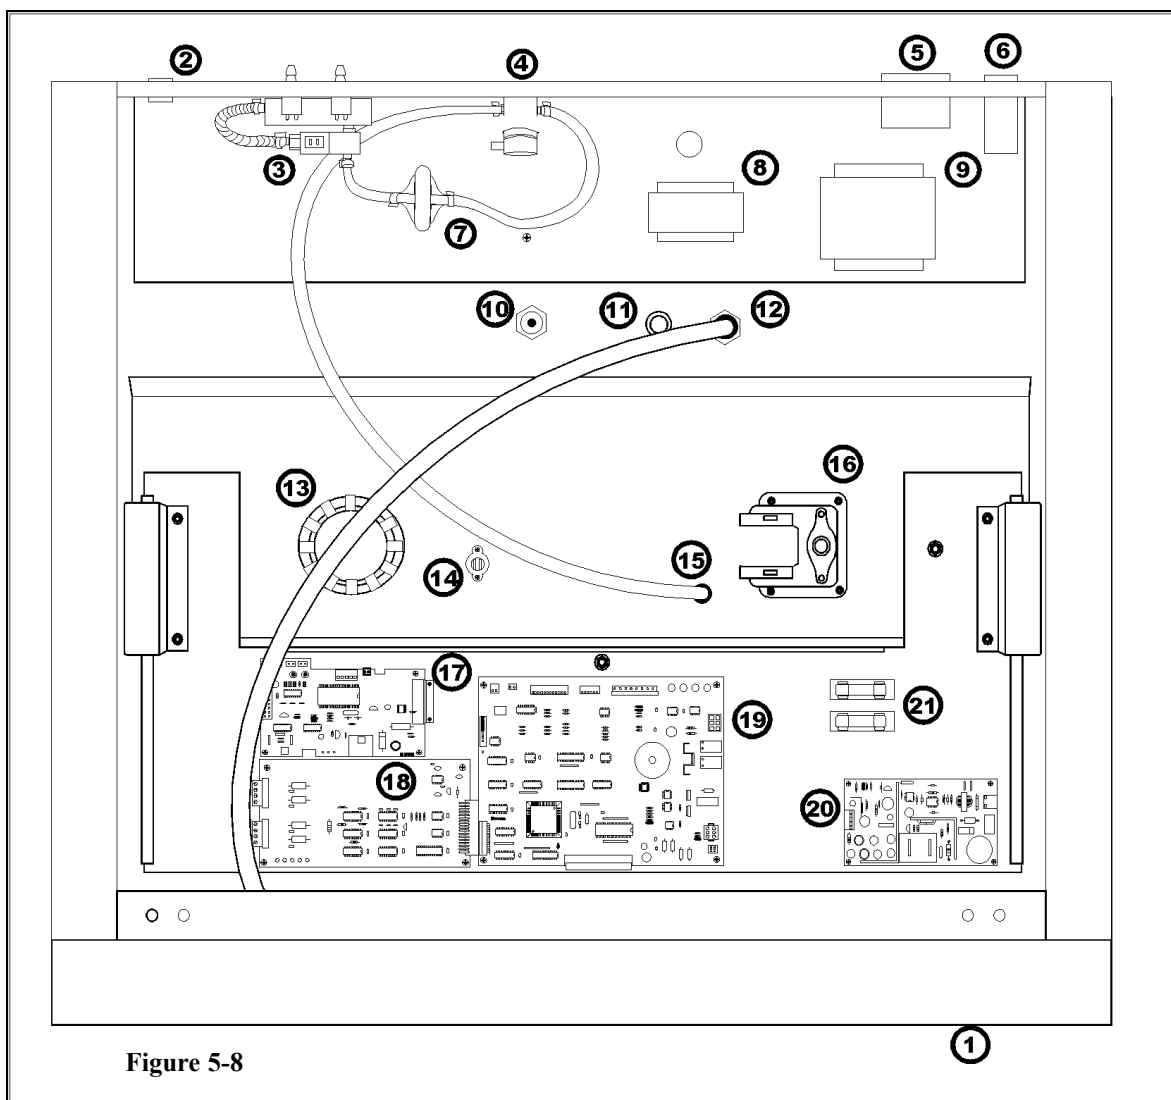
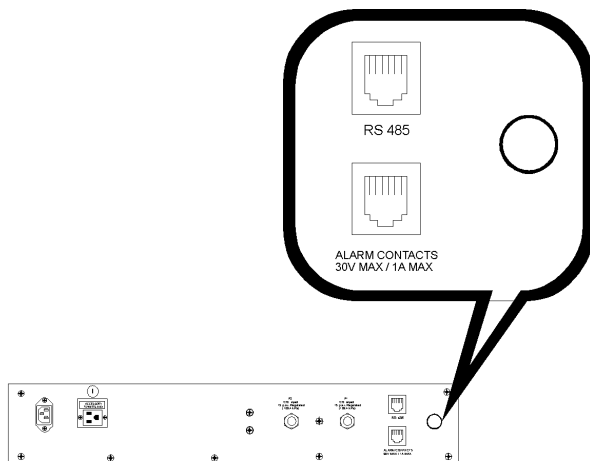
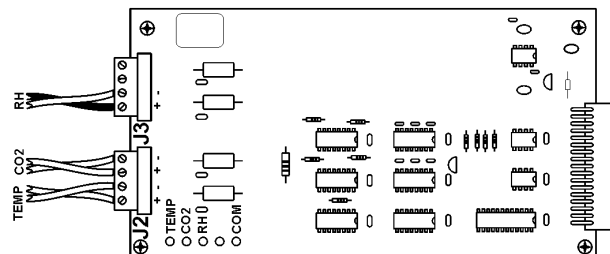
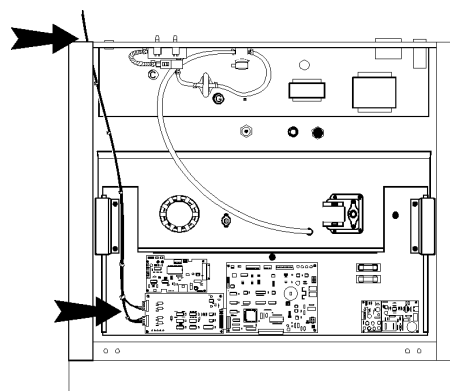

Figure 5-8
Figure 6-3
Figure 6-4
Figure 6-5
5. Refer to Figure 5-8 for the location of the two fuses. (Items 21 in the illustration)
Refer to Figure 5-8. Some of the components shown in this illustration are factory installed options. They are identified as such in the descriptions below.
3. Locate the Analog Output board, Figure 6-4 and Item 18 of Figure 5-8.
4. Each system monitored (Temp, CO2, RH) requires two conductors (Refer to Figure 6-4). Feed the wires through the auxiliary wire through-port on the back panel. This port is a circular fitting adjacent to the remote alarm and RS485 connectors as illustrated in Figure 6-3. The wire routing is shown by the black arrows in Figure 6-5.
5. Strip the ends of each conductor and wire it to the appropriate terminals of connectors J2 and/or J3 on the analog board. (Refer to Figure 6-4)